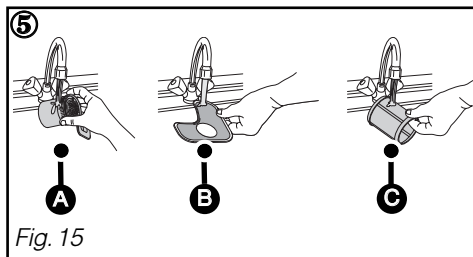

Fig. 15
- ② Loosen the waste filter a quarter of a turn and then remove it **A**.
- ③ Remove the main filter **B**.
- ④ Remove the micro filter screen **C**.
- ⑤ Carefully clean filters **A**, **B** and **C** under running water. (Fig. 15)